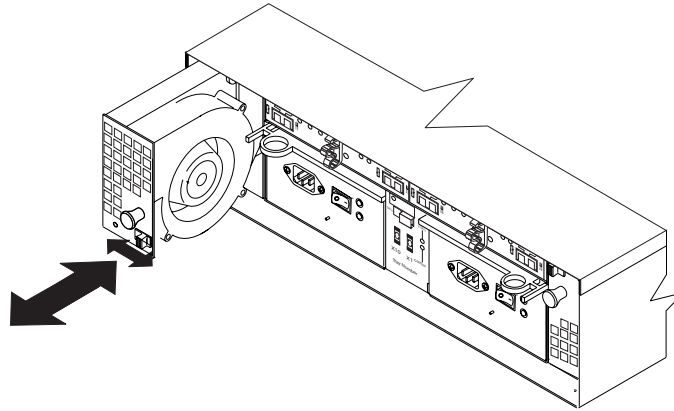

Figure 48. Replacing a hot-swap cooling fan
- b. Use the handle (black knob) to pull the fan from the fan bay, as shown in Figure 48 on page 100.